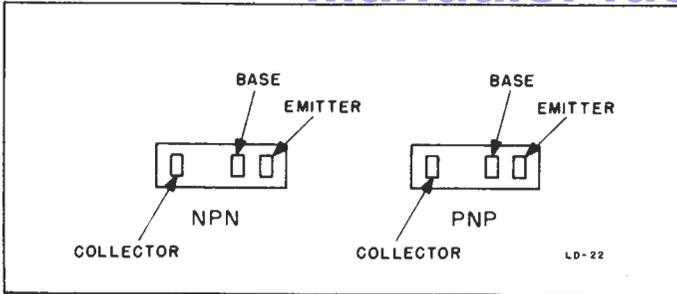

Figure 2-2. Transistor Socket Identification
(4) Insert transistor to be tested into the proper socket (PNP or NPN). Be sure to check the manufacturers data to determine the type of transistor. Transistors can be damaged if placed into the wrong socket. See Figure 2-2 for correct socket identification.
(5) Adjust the SHUNT control until the needle on the test meter reads full scale or 100% on the lower scale. If the test meter fails to indicate an upscale deflection, the transistor is open or defective.
(6) Push the slide switch marked LEAKAGE-GAIN to the LEAK - AGE position. Test meter will now indicate the leakage current on the lower scale for TRANSISTORS. If the needle is in the GOOD area the transistor is good, and if the needle is in the POOR area, the transistor should be discarded.